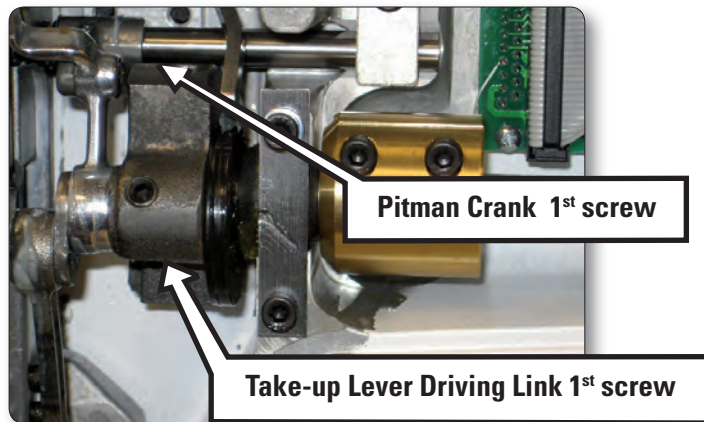

Figure 3.1
1. The Pitman crank (Figure 3.1) (# 5 slotted screwdriver)
2. The take-up lever driving link, (Figure 3.1) (3 mm handle Allen)
Note: The end where the chamfer is cut on the counterweight will determine whether the slit is up or down. The counterweight functions the same whether the slit is up or down. The counterweight chamfer edge is for bearing clearance and goes to the left against the bearing always. (Figure 3.1).